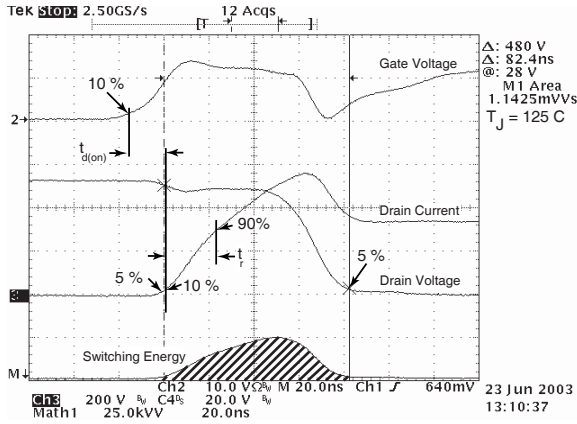

Figure 18, Turn-on Switching Waveforms and Definitions
- ① Repetitive Rating: Pulse width limited by maximum junction temperature
- ② Pulse Test: Pulse width < 380 μs, Duty Cycle < 2%
- ③ See MIL-STD-750 Method 3471
- ④ Starting TJ = +25°C, L = 115.92mH, RG = 25Ω, Peak IL = 3.4A
- ⑤ IS = -34A diS/dt = 100A/μs VR = 480V TJ = 125°C
- ⑥ Eon includes diode reverse recovery. See figures 18, 20.
- ⑦ Repetitive avalanche causes additional power losses that can be calculated as PAV = EAR \* f